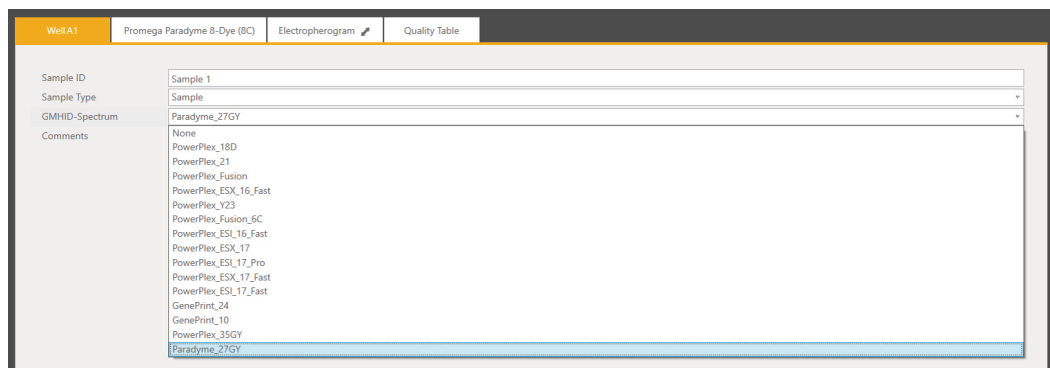

Figure 16. Drop-down options for GeneMarker®HID Software for Spectrum CE Systems run wizard templates.
6. **Optional:** Select **Paradyne_27GY** in the GMHID-Spectrum drop-down menu (Figure 16).